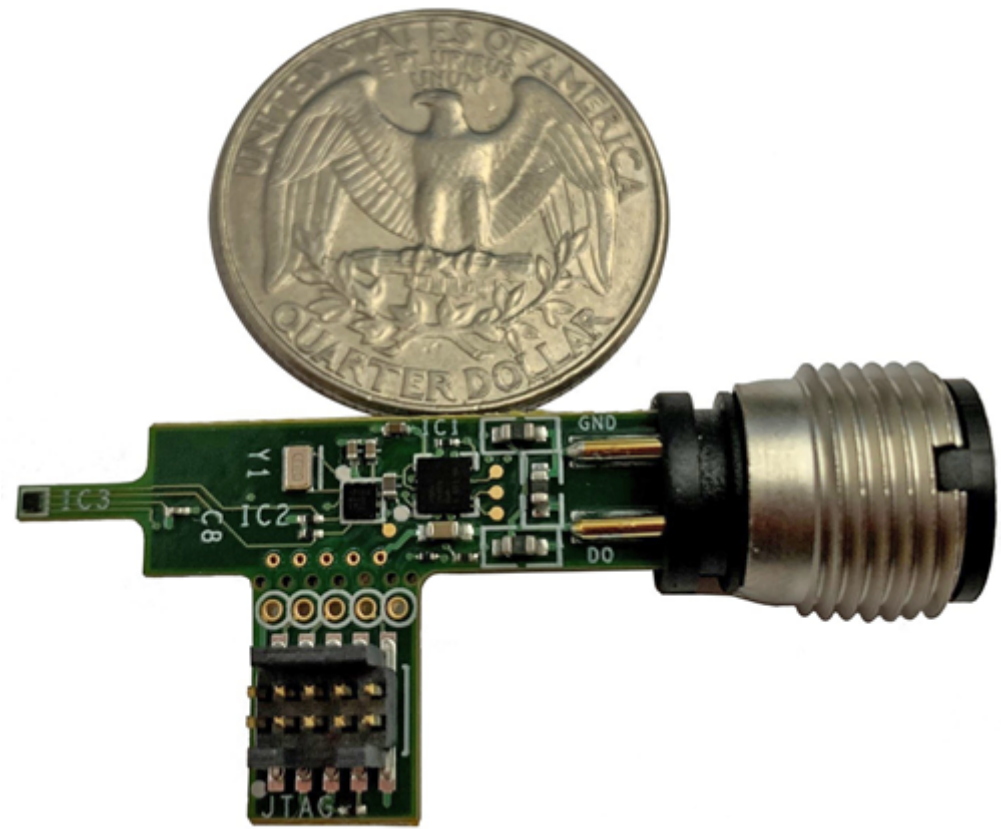

Figure 4. The MAXREFDES164# features the MAX14828.
- The MAXREFDES164# is a temperature sensor using the MAX14828 as the IO-Link transceiver. This design requires a tiny footprint and uses AVX® TransGuard® varistors for protection, specifically the VC060330A650DP, which has a working voltage of 30V and a clamping voltage of 67V, and it supports a peak current of 30A. Due to the high abs max (65V) rating of the MAX14828, the design can use these tiny varistors that are just 1.6mm long x 0.8mm wide (standard 0603 package), helping to enable a tiny footprint, as demonstrated in **Figure 4**. This board has been tested to pass up to ±1.2kV/500Ω between the different pairs of IO-Link pins.